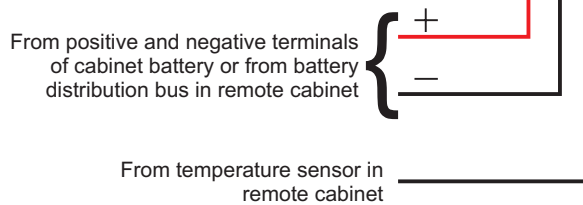

Figure-2: Standby battery wire connections
2. Connect the standby battery conductors to TB2 on the power supply assembly. Refer to Figure-2 on page 3.
3. If a remote battery cabinet is used, connect the temperature sensor conductor to TB2 on the primary power supply assembly. Refer to Figure-2 on page 3.